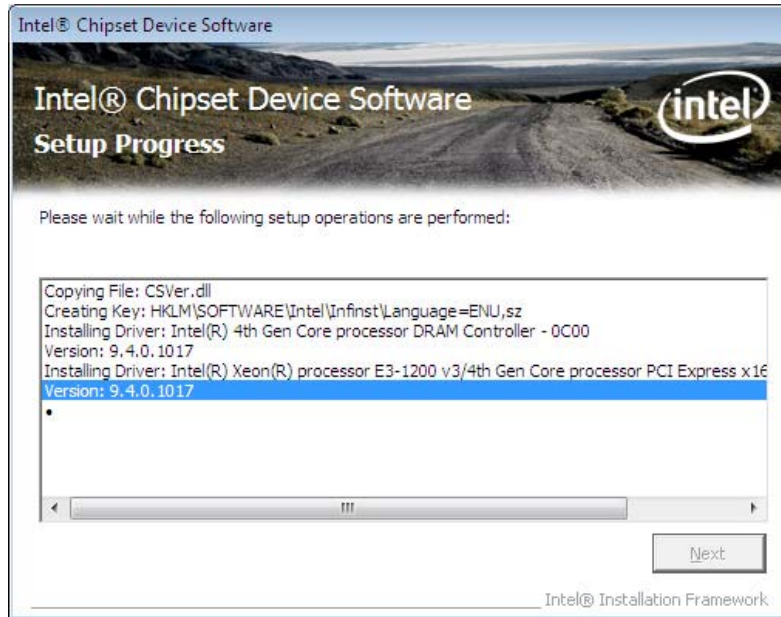

Figure 6-4: Chipset Driver Setup Progress
Step 11: **Setup Progress** is performed as shown in **Figure 6-4**.